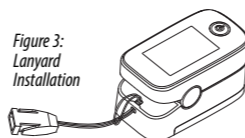

Figure 3: Lanyard Installation
- Pass the thicker end of the lanyard through the thinner end and tighten the lanyard (Figure 3) ->